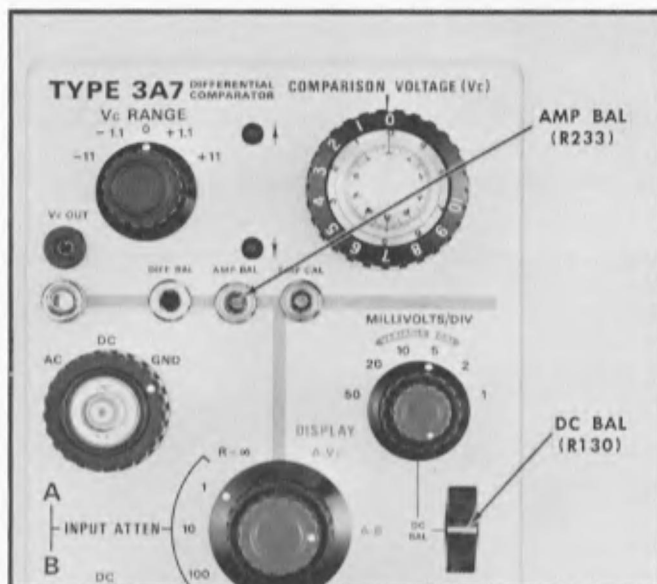

Fig. 5-8. Steps 3 and 4 adjustment locations.
①
b. Adjust the DC BAL control (see Fig 5-8) so there is minimum trace shift as the VARIABLE (MILLIVOLTS/DIV) control is rotated back and forth.
- Adjust the AMP BAL control R233 (see Fig. 5-8) so the position of the trace matches the position noted in step 4a. To check on the accuracy of the adjustment, set the MILLIVOLTS/DIV switch to its various positions. There should be no trace shift.